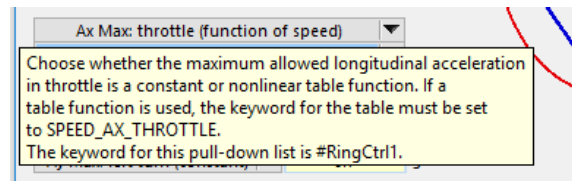

Figure 39. Right-click to see the root keyword for a configurable function.
When a Configurable Function is used, it is necessary to specify the keyword associated with the acceleration limit (SPEED\_AX\_THROTTLE, SPEED\_AX\_BRAKE, SPEED\_AY\_LEFT, or SPEED\_AY\_RIGHT). Right-click on the drop-down control to see the keyword associated with that control. For example, right-click on the throttle pull-down control to see that the keyword is SPEED\_AX\_THROTTLE (Figure 39).
- ② The root keyword for the function must be set for the math model to assign the data properly to the Configurable Function. In general, Echo files are a good reference for keywords because the root keywords are written in the Echo files created for each run. In the case of the Speed Controller from Path Preview, the keyword can also be found by right-clicking on the pull-down control for the limit acceleration (Figure 39 on page 50).